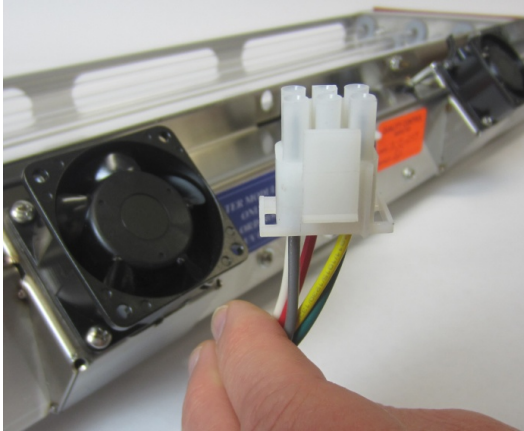

Figure 6-9-1
4. Disconnect the Lamp / Ballast Connector plug (Refer to Figure 6-9-1 and 6-9-2).